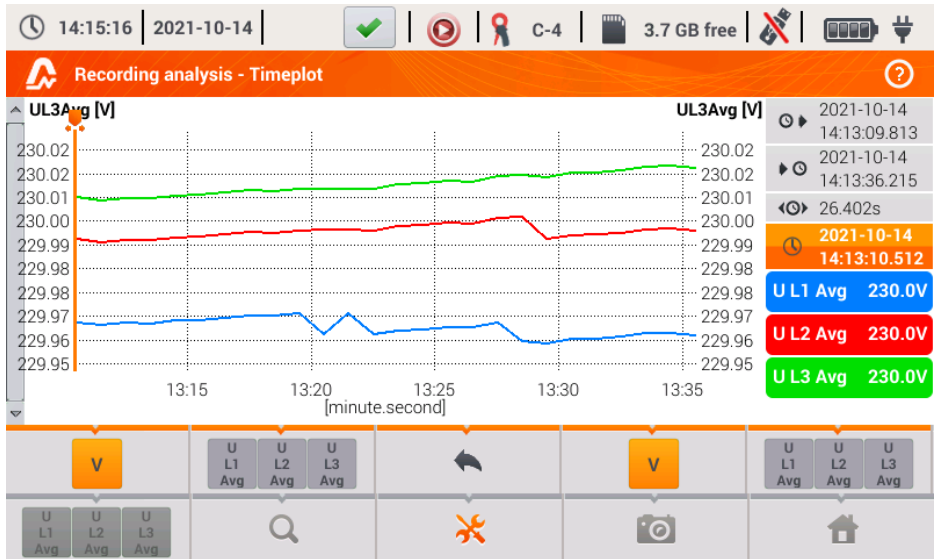

Fig. 26. Recording analysis - timeplot - selecting scale.
- displays additional menu for setting scales (Fig. 26). In this menu, you can select the description of the scale on the right and left side of the chart. To do this, click on the icon with the name of the parameter. The icon with the unit name is displayed when the graph have at least two parameters having the same unit. Click this icon to rescale plots having the same unit to a common scale (described by one of the common parameters). Remember that when scales are not unified, only one waveform with unit assigned to the axis is scaled to the indicated scale